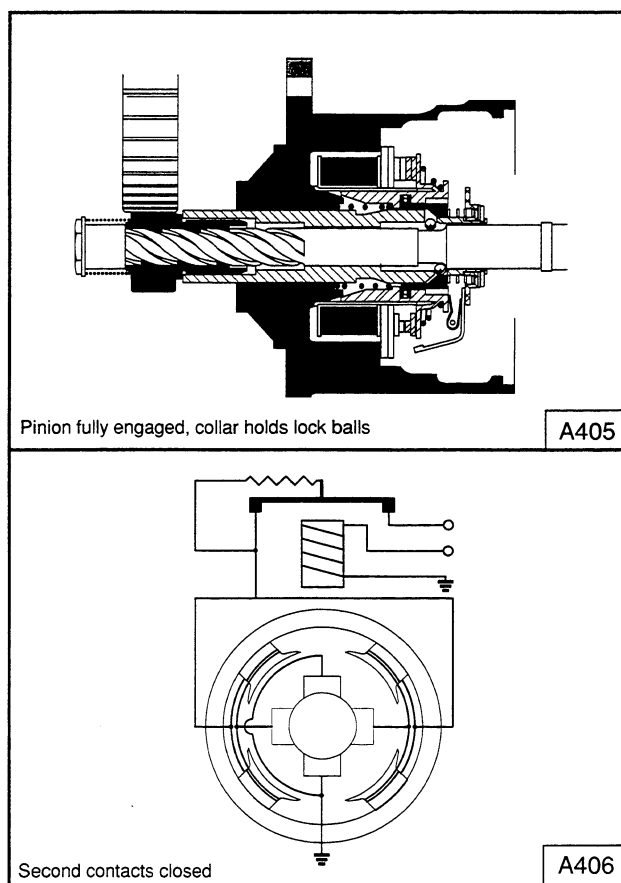

Fig. 4 Cranking Position
1.2.3 Cranking Position (See Fig. 4)